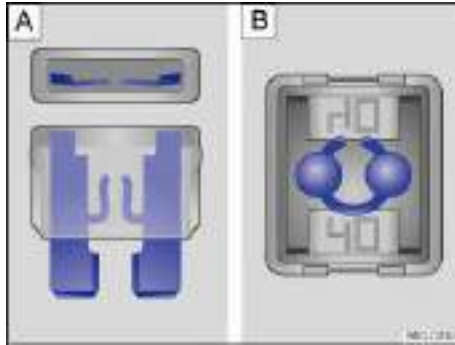

Fig. 198 Blown fuse: A: Blade fuse. B: JCASE® fuse.
- A blown *blade fuse* (ATO®, MINI®) has metal strips that have burned through, which you can see through the transparent housing from above and from the side ⇒ fig. 198 A.
- A blown *cartridge fuse* (JCASE®) has metal strips that have burned through, which you can see through the transparent housing from above ⇒ fig. 198 B.